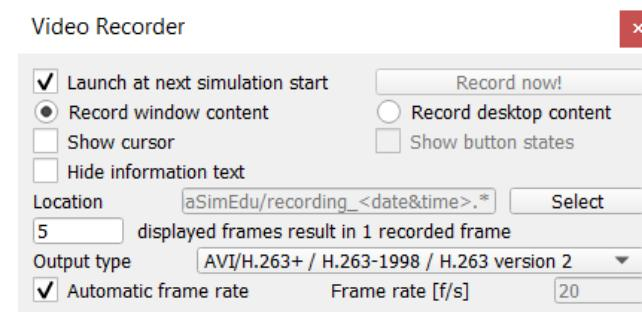

Figure 6: Video Recorder dialog box of CoppeliaSim.
- To record the video of simulation, click on the  button of CoppeliaSim and set the parameters as shown in Figure 6.